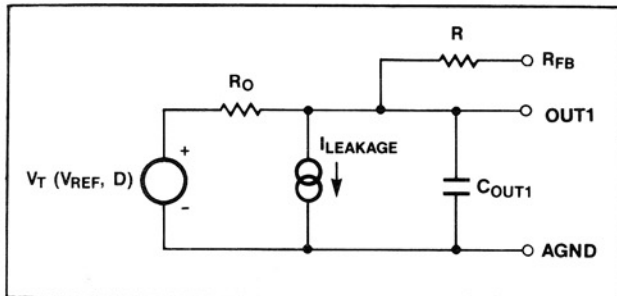

Figure 2. MX7548 Equivalent Analog Output Circuit
Figure 2 shows the equivalent circuits for the MX7548 analog section. The  $I_{LEAKAGE}$  current sources represent junction and surface leakage currents. The equivalent output resistor of the DAC is  $R_o$ , which varies with digital input code from  $0.8R$  to  $2R$  (infinite at zero code), where  $R$  is typically 11k $\Omega$ . Capacitor  $C_{OUT1}$  represents the capacitances of the switches used in the R-2R ladder. When inputs are switched from low to high, the capacitance at OUT1 changes from about 40pF to 100pF. This capacitance is code-dependent and is a function of the number of ON switches that are connected to the output.  $V_T(V_{REF,D})$  is the equivalent voltage source controlled by  $V_{REF}$  and the digital input code (D).